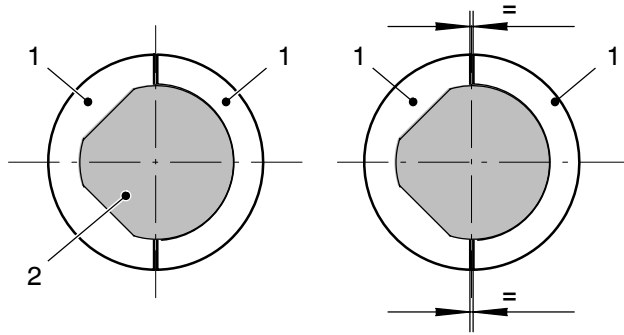

Fig. 7-7
The axial offset, meaning the sum of the four gaps (4, Fig. 7-7), must result in at least 2 mm (0.08 in) of air to accommodate the heat expansion during operation.
5. Center the coupling disks (1) to one another and allow the coupling links (2) to hang vertically (Refer to Fig. 7-7). Turn the coupling half on the motor shaft to its position by hand.
6. Tighten coupling screws (3).
- Turn the half shells (1) such that the diagonal surfaces of the pump shaft (2) rest on those of the coupling half shells (Refer to Fig 7-7).
- The coupling half shells must be tightened such that the gaps are the same size (Refer to Fig. 7-7).